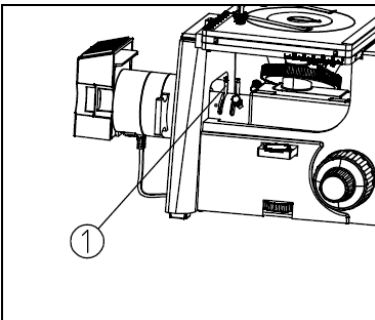

Fig.19
The adjustment of aperture diaphragm is the same as field diaphragm. Please use knob ①. Please adjust aperture diaphragm to suitable through the contrast of image. (Fig. 19)